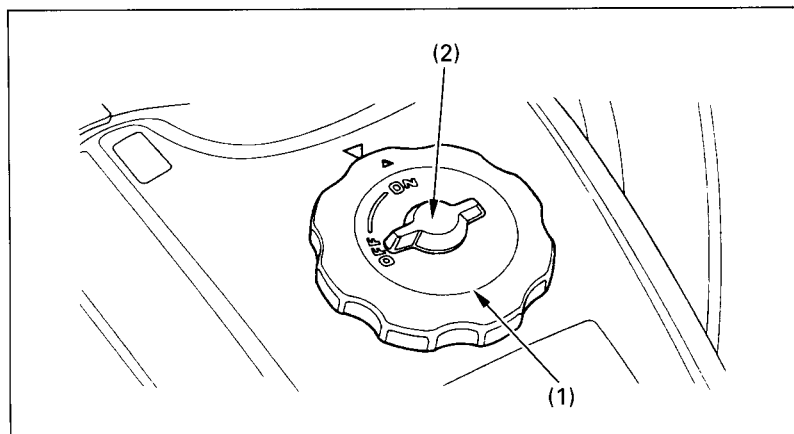

Fig. 2-22 (1) Fuel fill cap
The fuel fill cap (Fig. 2-22) has a fuel cap vent lever (2) with ON and OFF positions. The lever should be turned to ON to allow fuel to flow when running the engine. Turn the vent lever to OFF to prevent fuel from flowing out the vent hole when transporting the FOURTRAX.